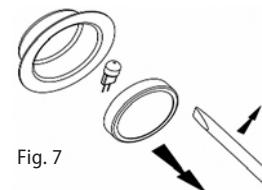

Fig. 7
- Release and demount the protection glass with a screwdriver (or another flat tool), as shown in Fig. 7.